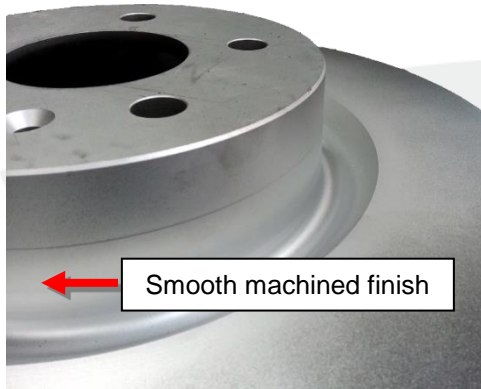
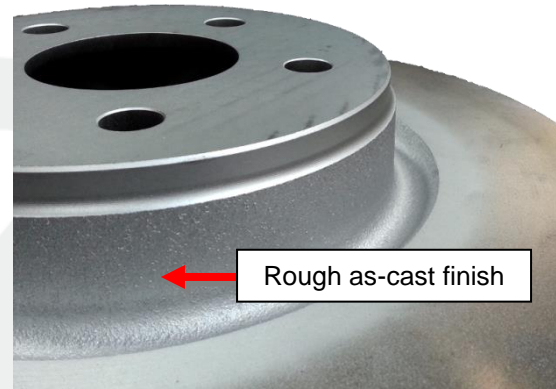

Figure 1 (Machined front rotor)
Figure 2 (As-cast front rotor)
1. Check the design of the front rotors by looking through the openings in one of the front wheels. The standard front rotors have a smooth, machined finish on the hat (Figure 1). The service rotors have a rough, as-cast finish on the hat (Figure 2). Continue this procedure if the standard front rotors are installed.